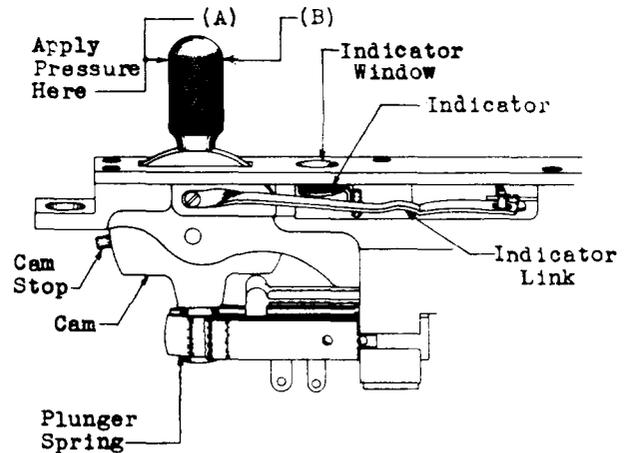

Fig. 8
2.15 Lever Operate Pressure - Fig. 8 (A) -
2.16 Lever Release - Fig. 8 (B) - The pressure required to restore the lever